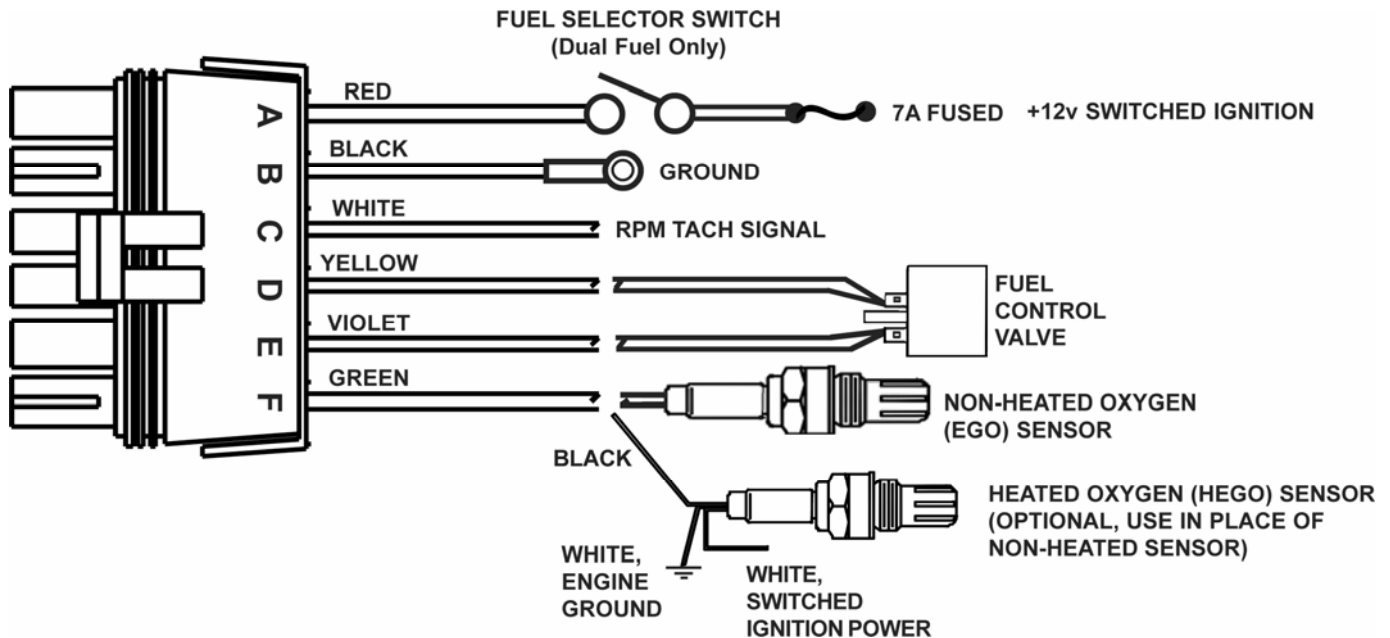

Figure 2
6. If it is not possible to locate the supplied sensor within the 12" specified, the **optional heated oxygen sensor** must be used. This type of sensor has a built in heater coil that heats the sensor with +12 volts. It is not dependent on exhaust temperature for output. Additional benefits can be faster closed-loop control during warm-ups further reducing exhaust emissions. See Figure 2.